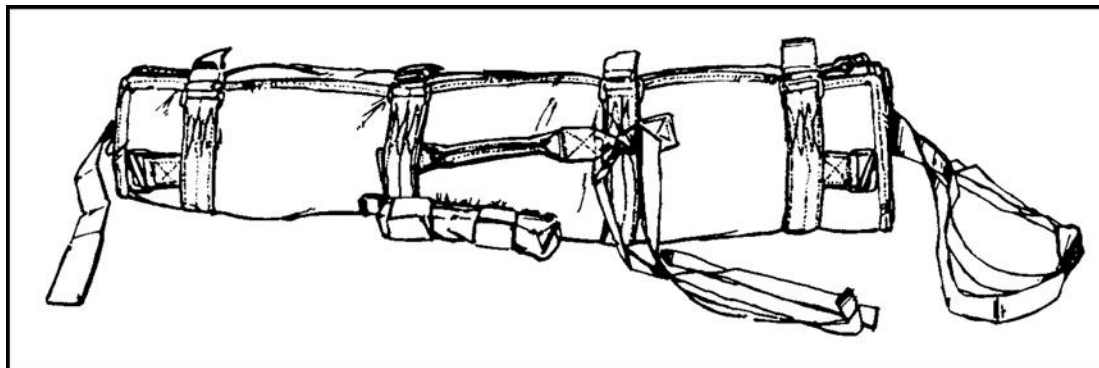

Figure 12-50. Pack closed.
- (1) Rotate the unfolded portion over the rifle and weapon round snugly.
- (2) Route the four side securing straps through the quick-fit adapters and tighten, then thread the end through the adapter, forming a quick-release fold. Fold the strap excess back under its corresponding quick-fit adapter (Figure 12-50).